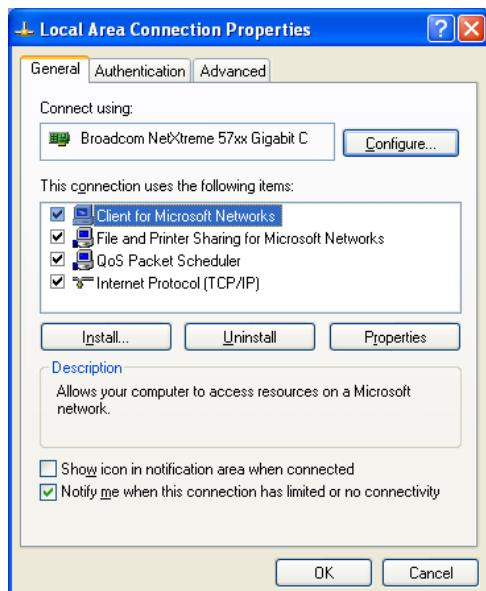

Figure 3-1: Setting a static IP address
3. Double Click the Internet Protocol (TCP/IP), see Figure 3-1.